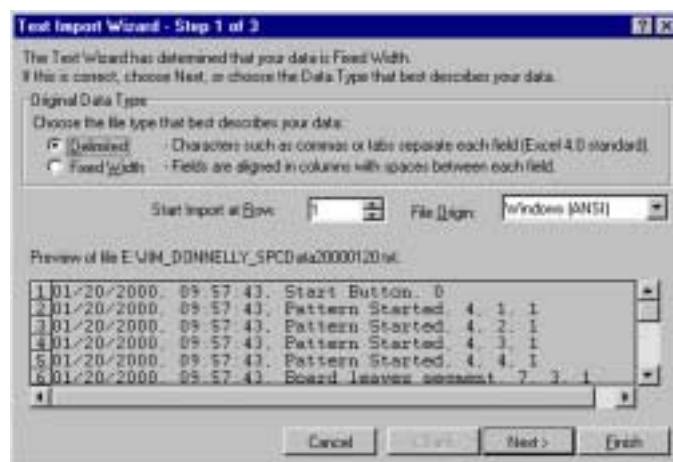

Figure 11-3
8. Select the file to be viewed from the disk. The Text Import Wizard will appear. See Figure 11-3.